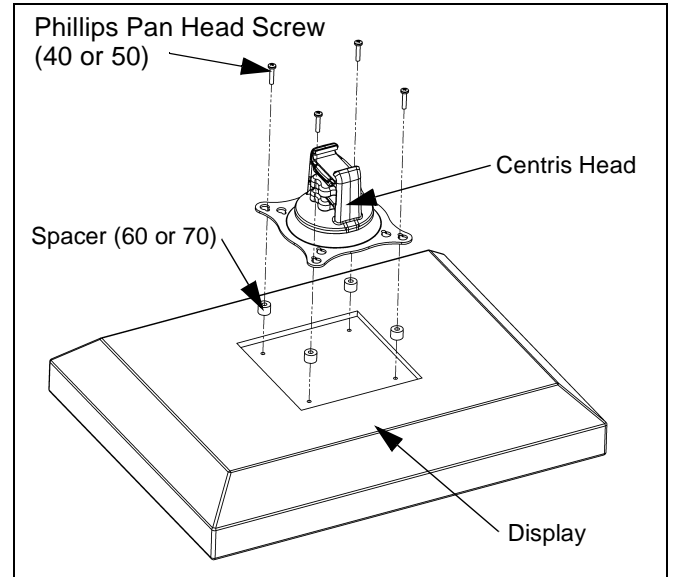

Figure 8: Mount Centris Bracket to Display
6. Secure Centris head to display using four M4 x 20mm Phillips pan head screws (40), or four M4 x 30mm Phillips pan head screws (50). (See Figure 8)